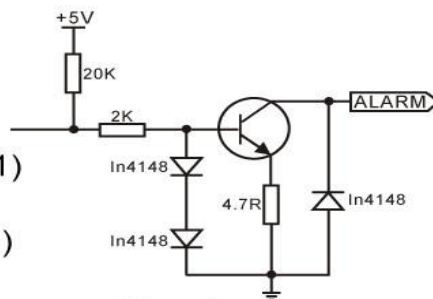

Figure 1
1. Alarm output interface (See Figure 1)